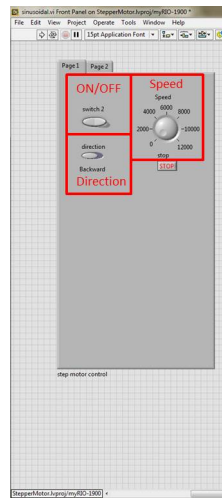
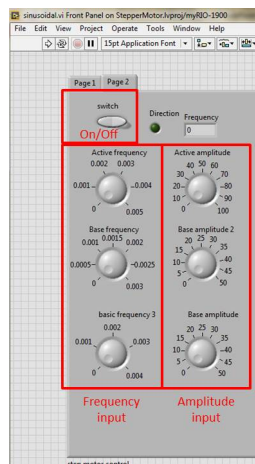

Figure 12: Figure of the front panel view of labview.
Figure 13: Figure of the back panel view of labview.
- Operate the front panel of the Labview. The front panel includes two pages. The first page is the single direction motion as shown in Fig. 12. There are one switch for the direction, one switch for on/off and one knob for speed. The value on the knob is the command frequency of the motor, it does not mean the speed of the motor. Even though a larger frequency number moves the motor faster. The second page (as shown in Fig. 13) is used to generate the sinusoidal motion. There are several rotating inputs that accept the angular frequencies and amplitudes input.